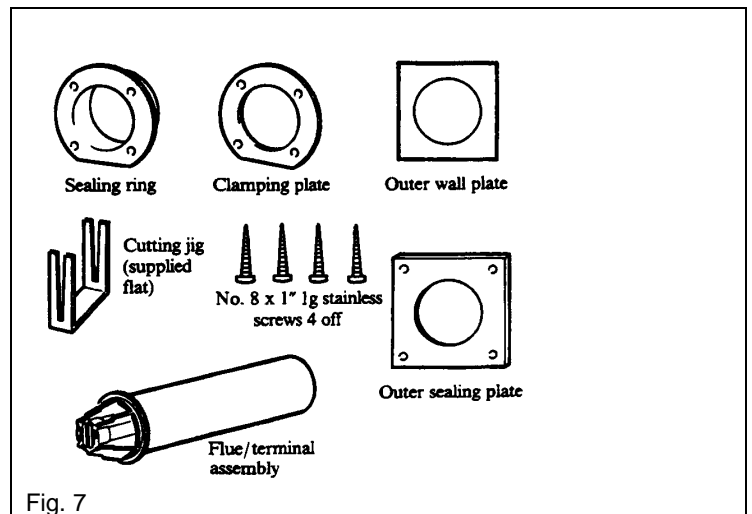

Fig. 7
Refer to Fig. 7.
2. Do not discard any packaging until all the items are accounted for, see Fig. 7.
3. Bend the cutting jig to shape as shown in Fig. 7. The jig is easily bent by hand.